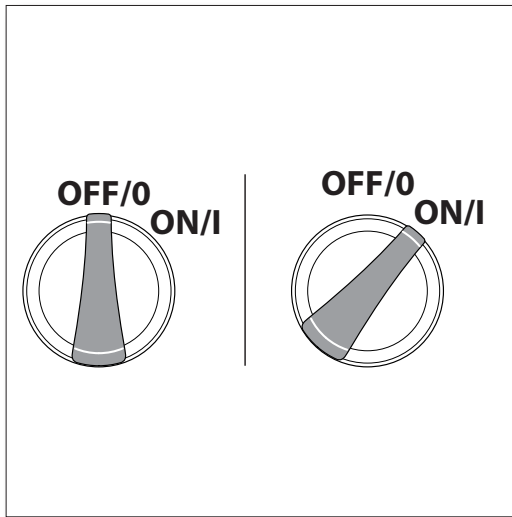

Fig. 18
- Make sure the “ON/OFF” switch is in the “OFF” position. The power switch has international symbols for ‘on’ and ‘off’: On (I) Off (O), (*Fig. 18*).